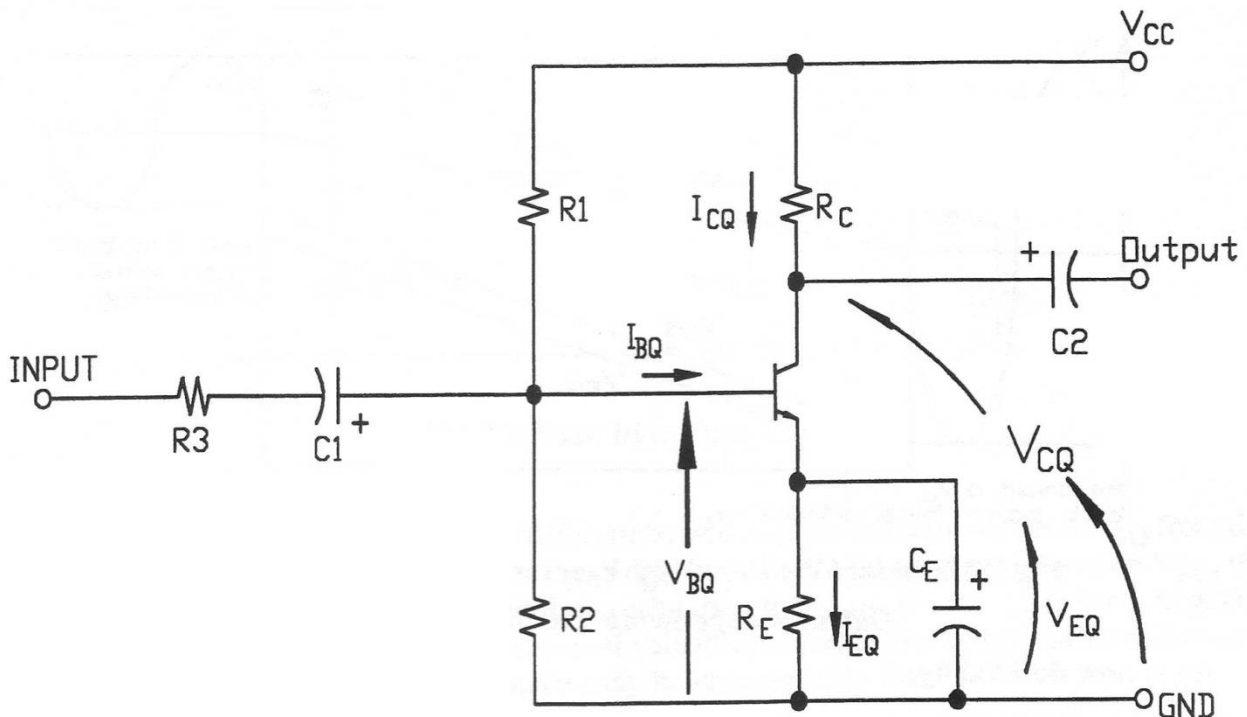

Figure 2.5 The Classical Common-Emitter Amplifier
As an example design approach we will consider the classical common-emitter voltage amplifier with a four-resistor bias network, as shown in Figure 2.5.
3. **Choose V_{EQ} :** This choice involves a direct trade-off between bias stability, with respect to variations between individual transistors, variations in temperature etc., and the magnitude of the required output voltage swing. Figure 2.5 shows this trade-off in a graphical form. Typically, V_{EQ} is chosen to be between $0.1 V_{CC}$ and $0.3 V_{CC}$.